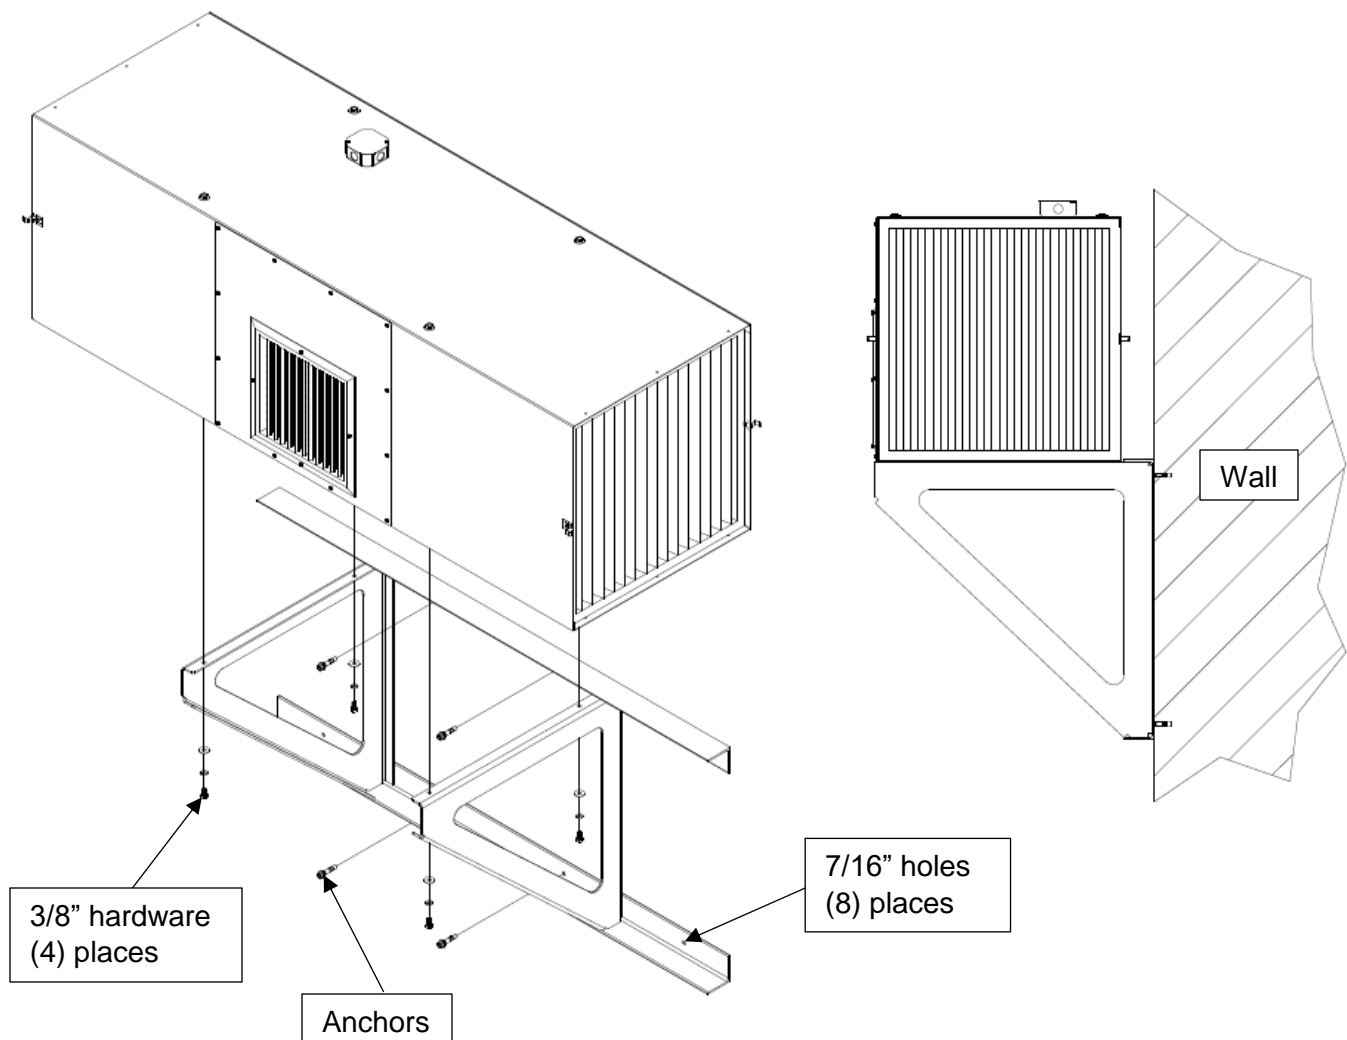

FIG. 3
4. Install cabinet to wall mount by bolting to the bottom of the cabinet with the hardware supplied (See **FIG. 3**).